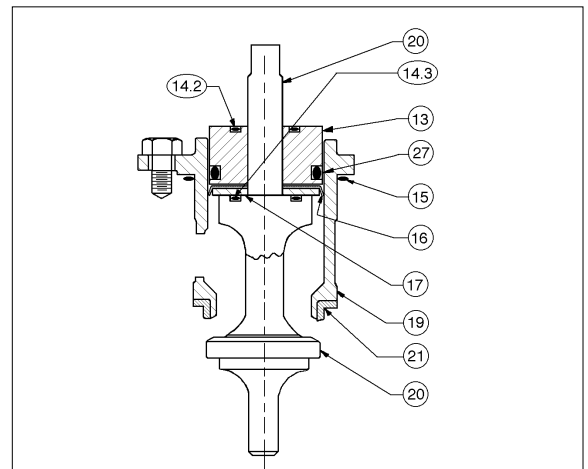

Figure 2: Assembled ITA, Composition Diaphragm Construction
1. Units with Composition Diaphragm(s) (See Figure 2):